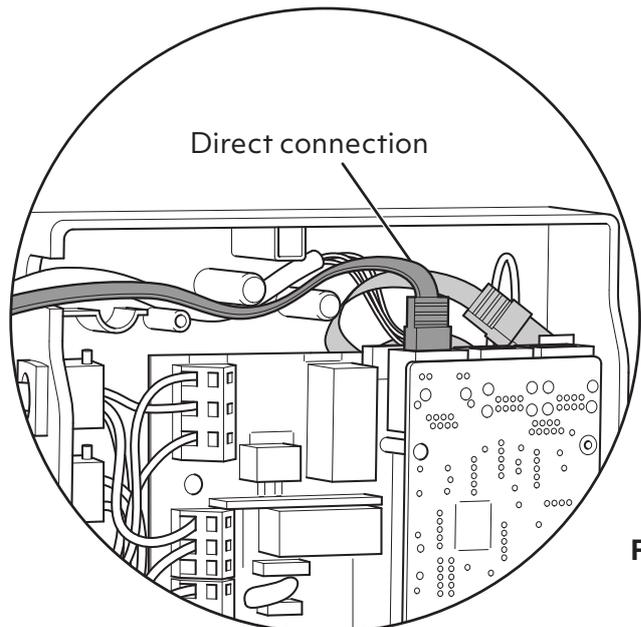

Fig. 19
2. Replace the removed ethernet cable with a suitable direct connection to the network (broadband router/switch) (Fig. 19).